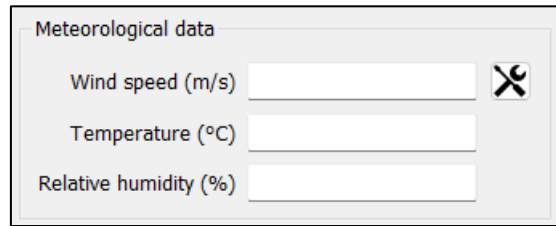

Figure 6 : Parameterization of meteorological data
The various meteorological data to be provided during the spreading are three (03) in number as presented on the **Figure 6**.